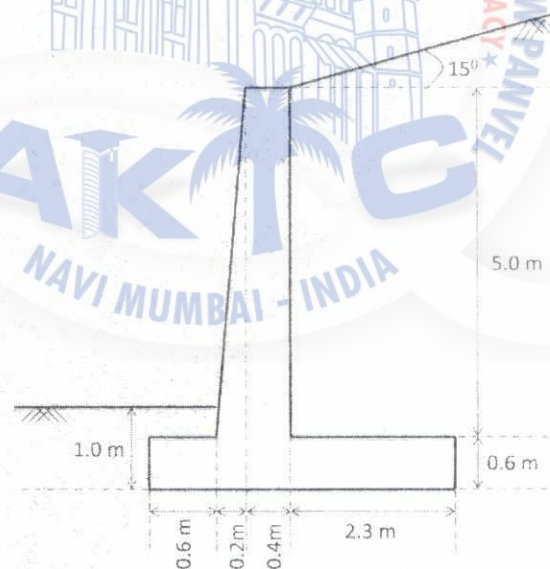

Fig. 2.
- (b) Check the stability of the cantilever retaining wall shown in Fig. 2. The allowable bearing capacity of the soil is 500 kN/m^2 . Other properties of the soil are as follows: $\phi = 36^\circ$, $\gamma = 18 \text{ kN/m}^3$ and $\delta = 25^\circ$. 10